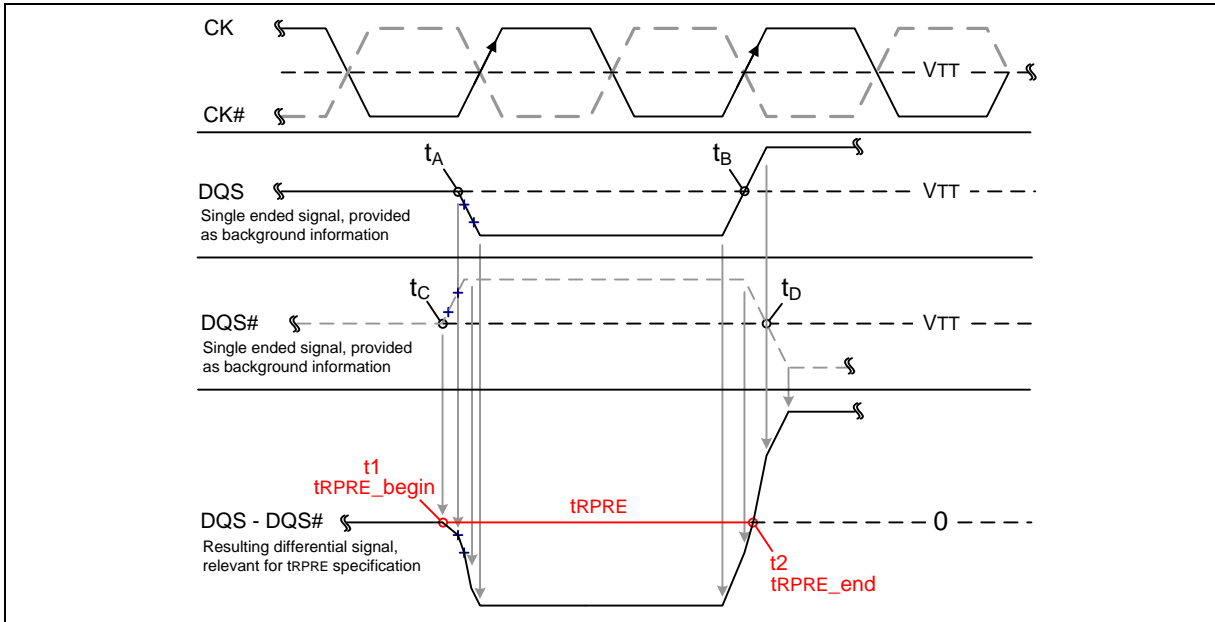

**Figure 26 – tLZ and tHZ method for calculating transitions and endpoints**
**8.13.2.3 tLZ(DQS), tLZ(DQ), tHZ(DQS), tHZ(DQ) Calculation**
tHZ and tLZ transitions occur in the same time window as valid data transitions. These parameters are referenced to a specific voltage level that specifies when the device output is no longer driving tHZ(DQS) and tHZ(DQ), or begins driving tLZ(DQS), tLZ(DQ). Figure 26 shows a method to calculate the point when the device is no longer driving tHZ(DQS) and tHZ(DQ), or begins driving tLZ(DQS), tLZ(DQ), by measuring the signal at two different voltages. The actual voltage measurement points are not critical as long as the calculation is consistent. The parameters tLZ(DQS), tLZ(DQ), tHZ(DQS), and tHZ(DQ) are defined as singled ended.